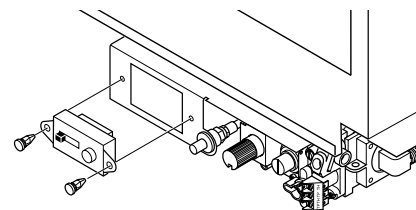

Figure 38 - Installing Remote Receiver
- Place receiver into valve bracket and align holes (see Figure 38).